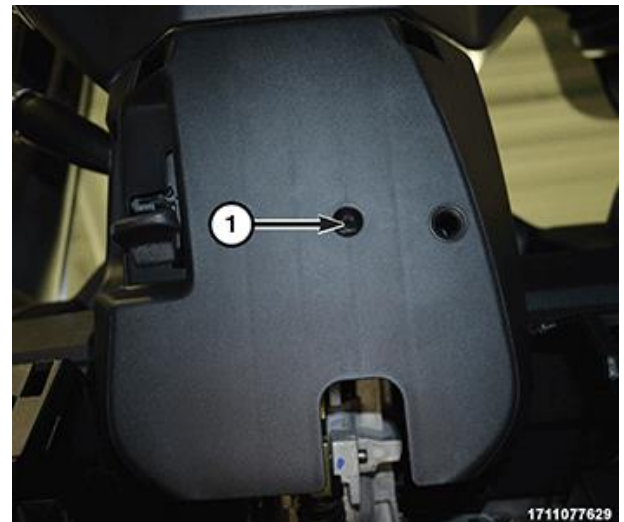

Figure 12 – Steering Column Lower Shroud
23. Remove the lower shroud to column retaining screw (1) and carefully move the lower shroud over the steering column tilt lever and off the steering column (Figure 12).
6. Install the lower shroud, shroud to column retaining screw (1) and tighten securely (Figure 12).